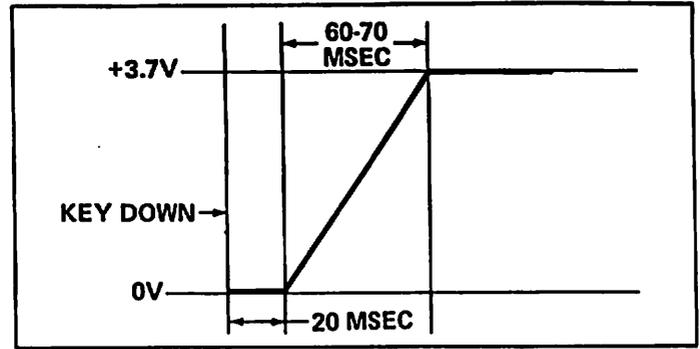

FIGURE 4-9 LOUDNESS ATTACK AT JUNCTION OF R165 AND R166
b) Depress C key one octave up from bottom of keyboard and adjust amplitude attack trimpot R174 to match the attack contour shown in Figure 4-9.